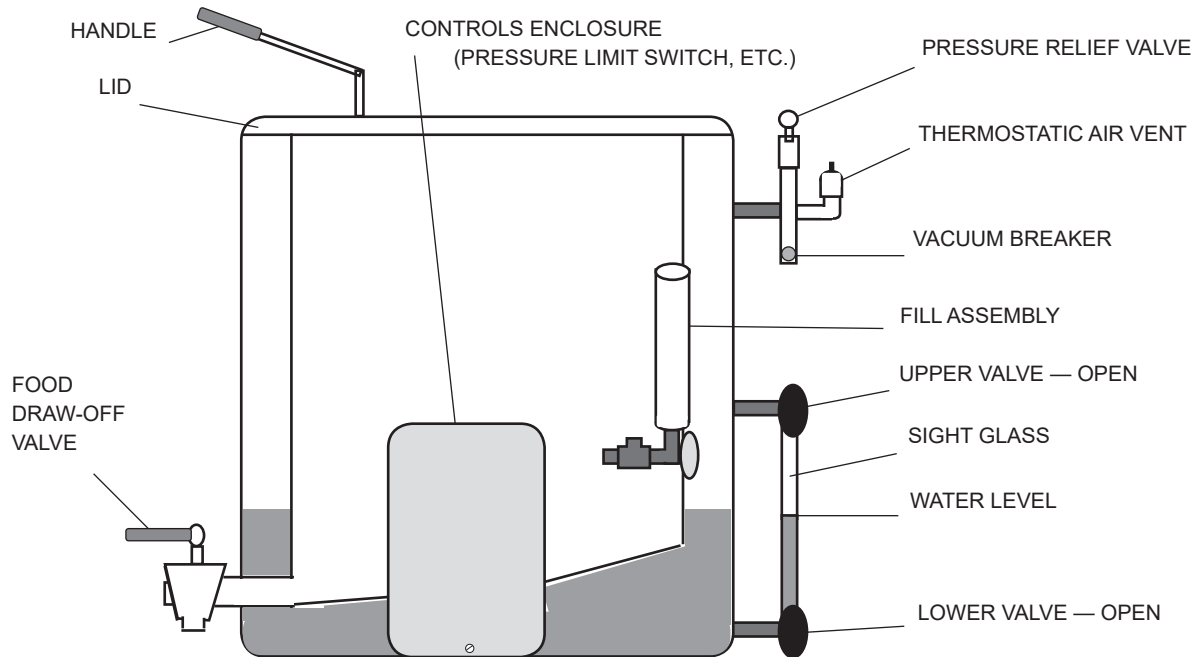

Fig. 2
KETTLE FEATURES — COMMON TO ALL CONSTRUCTIONS (FIG. 2)
4. Replace the control panel cover and screw. Check proper jacket water level: Refer to Fig. 2, page 10, and Jacket Water and Jacket Water Treatment, page 16.